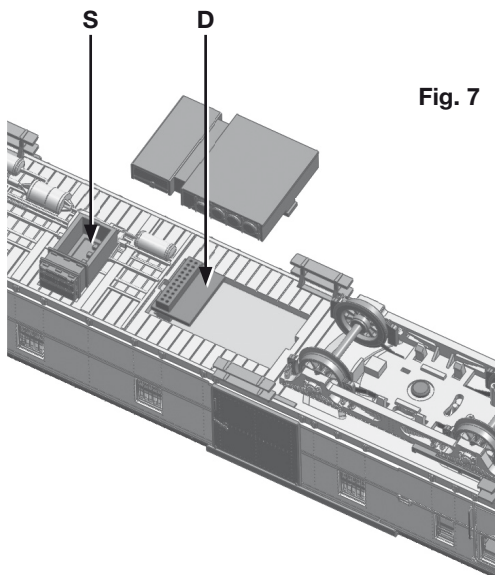
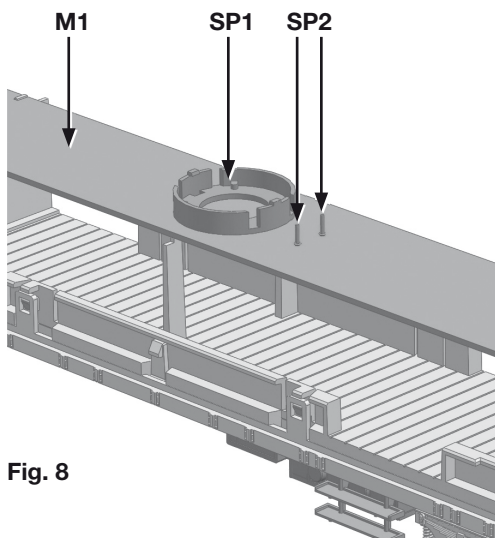

Fig. 7
Fig. 8
The baggage railcar was normally used on its own. However, one or other goods trucks was added on secondary routes. To enable you to also depict the model in this scenario, the front or rear light can be set depending on the version used. The integrated multi-switch (S) is located on the underside of the railcar as shown in **Fig. 7**. Please pay attention to the circuit diagram for the switch in **Fig. 6**. The model comes with the light change white/red in both directions.
Directly next to the multi-switch shown in **Fig. 7** on the underside of the railcar is also the 21-pin interface (D) for the digital decoder. After unclipping the cover, the jumper can be removed and the decoder attached. When doing this please make sure you follow the installation instructions of the decoder manufacturer exactly.
The railcar already comes completely prepared for locomotive sound operation. After fitting the sound decoder as shown in **Fig. 7**, the socket (SP1) for the loudspeaker is located on the top of the circuit board (M1) as per **Fig. 8**.